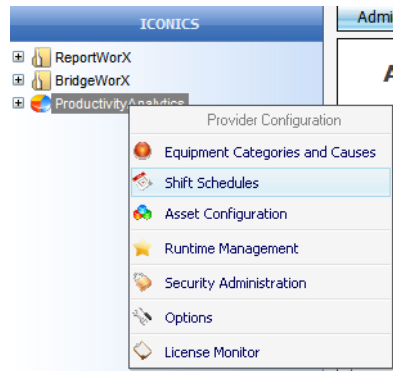

Figure L3.1 - Opening the Shift Schedules Configurator
2. Right-click on the **ProductivityAnalytics** provider and select **Shift Schedules**, as shown in Figure L3.1